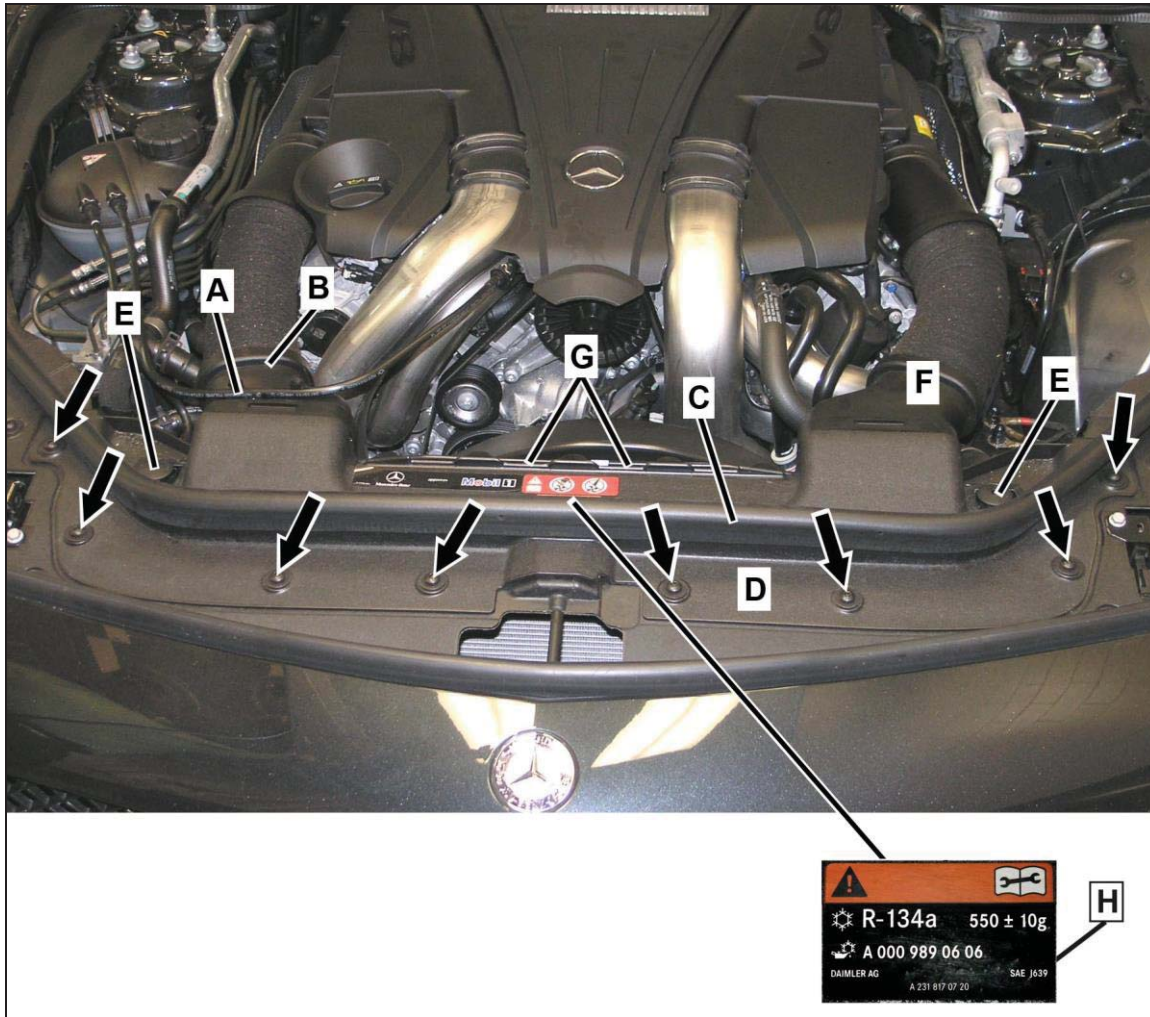

Figure 3
- Unclip coolant line (A, Figure 3) from air intake duct (B).
- Remove engine compartment seal (C, Figure 3) from radiator support/cover (D).
- Remove 2 radiator fasteners (E, Figure 3)
- Disconnect air intake ducts (B, F Figure 3) from radiator support/cover (D).
- Unclip hood release cable (G, Figure 3) from radiator (D).
- Remove radiator support/cover screws (arrows, Figure 3).
- Remove radiator support/cover (D, Figure 3).
19. Replace information label for R-1234yf air conditioning filling capacity on radiator cross-member with **new R-134a** label (H, Figure 3).